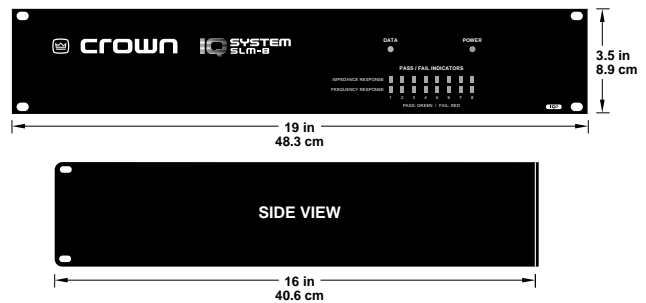

Fig. 4.3 Mounting Dimensions
Step 2: Mount the unit. The *SLM-8* is designed to be mounted in a standard 19-inch (48.3-cm) equipment rack or cabinet. Only two vertical rack spaces are required and its 16-inch (40.6-cm) depth matches the depth of most Crown amplifiers, making it easier to wire. It can also be "stack" mounted outside of a cabinet. The mounting dimensions are shown below in Figure 4.3: